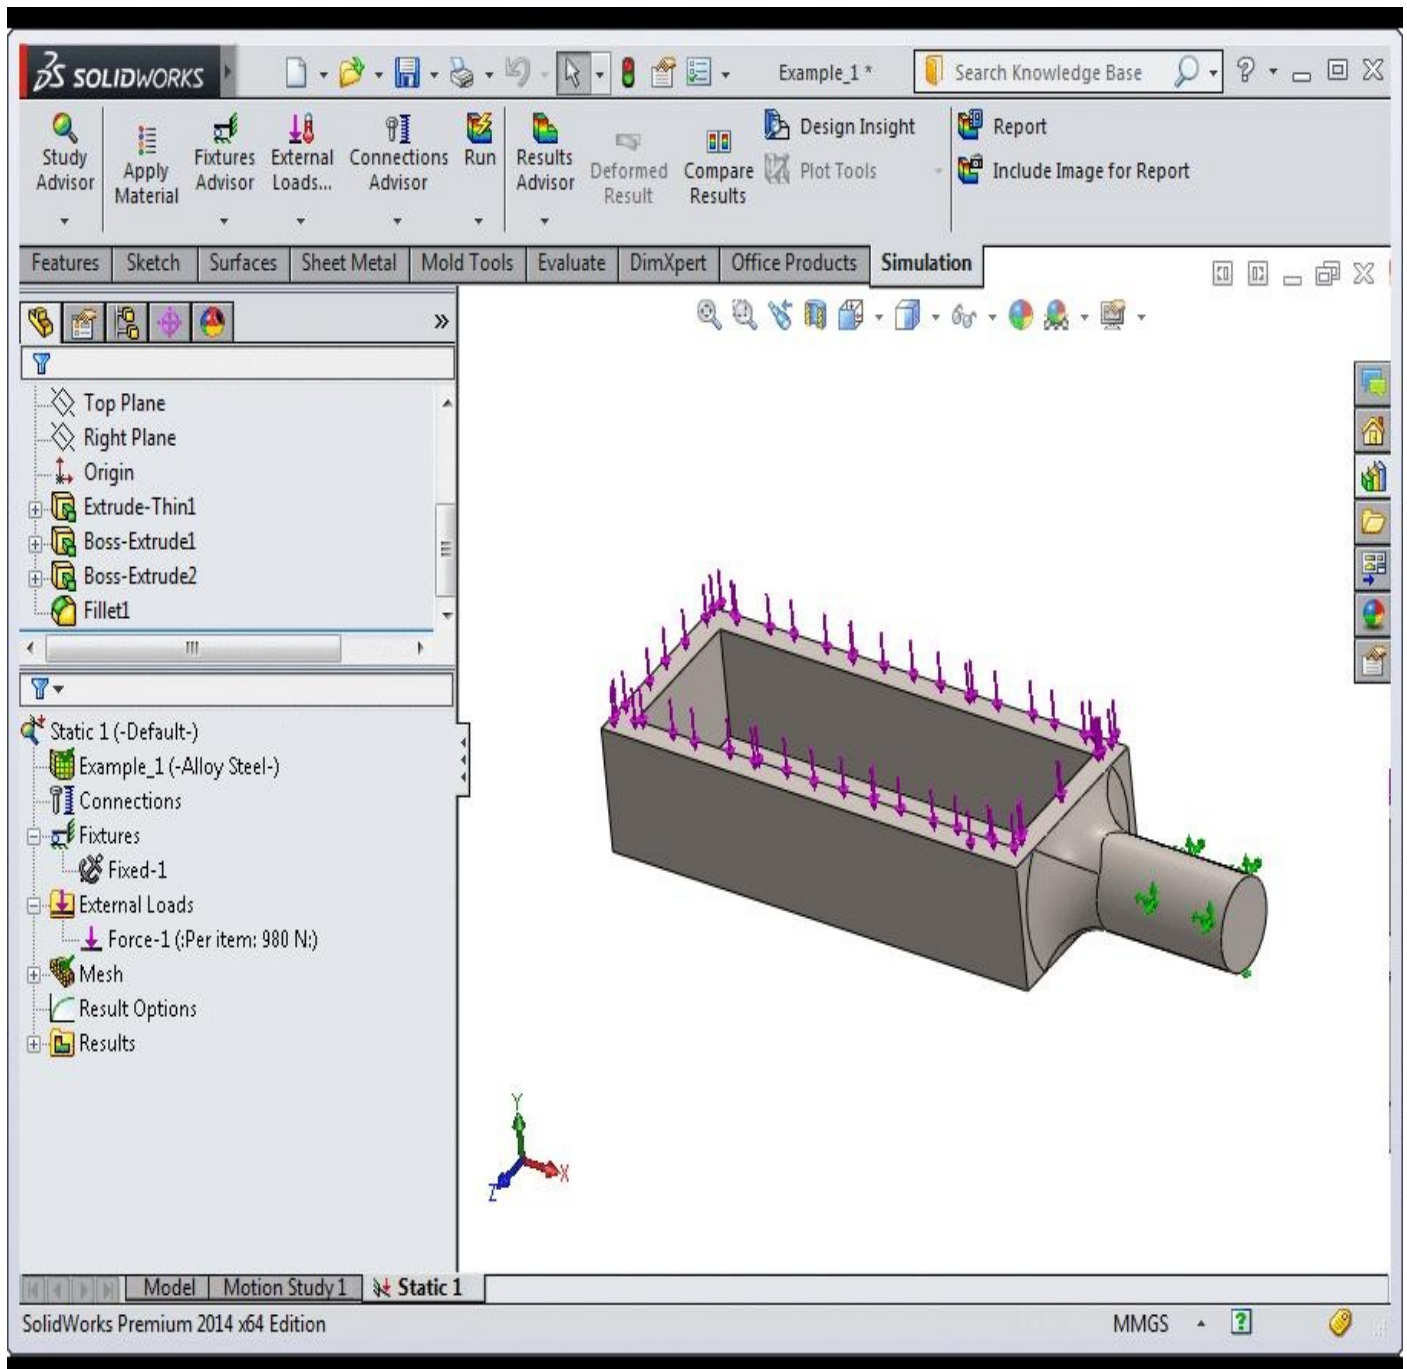

Figure-1. Model of chapter 3
- Open a part on which you have already performed Static or dynamic analysis. (We have opened the file used in Chapter 3 of this book; refer to Figure-1.)